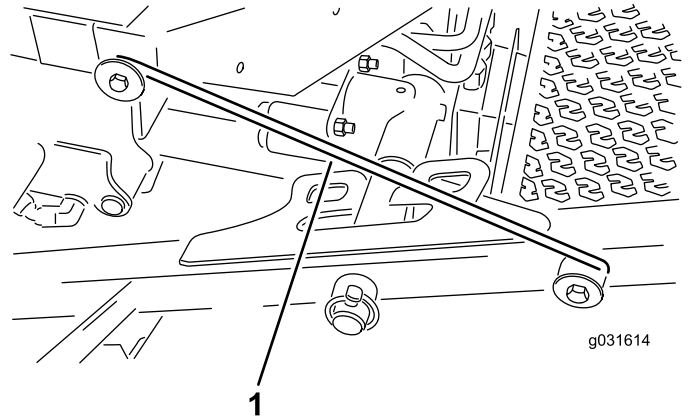

Figure 31
4. Release the latch rod from the front carrier-frame retainer (Figure 31).
5. Lift the outside of the front cutting decks and place the latch over the frame pin mounted on the front of the operator's platform (Figure 31).